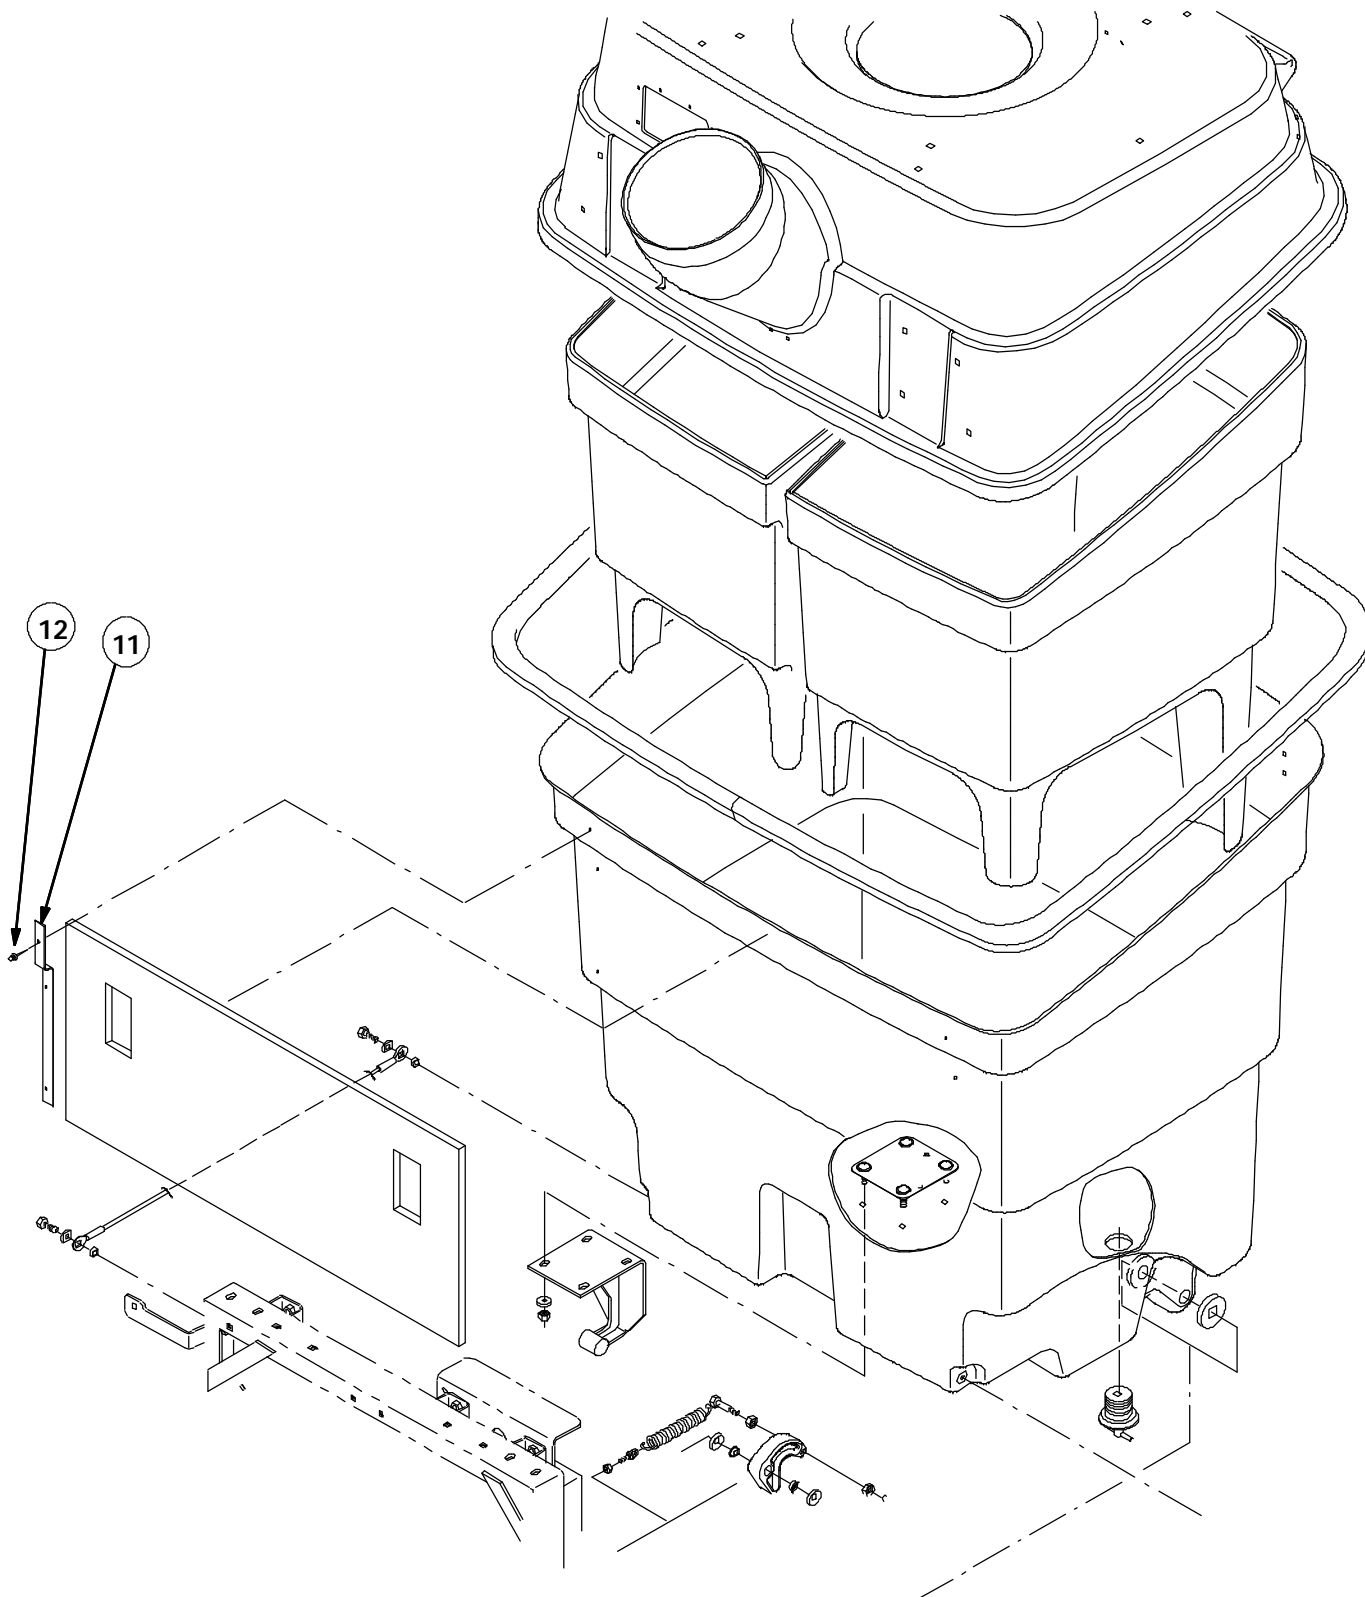

FIG. 2 SOUND FOAM RETAINER BRACKET INSTALLATION
22. Raise hopper cover. Tip out canister until retained by the cable. Using the retainer brackets (11) as templates, mark and drill three .194in. mounting holes in the canister and sound reducing foam. (Refer to FIG. 2)
23. Mount retainer brackets (11) to canister with rivets (12). Install rivets from the inside of the canister. (Refer to FIG. 2)